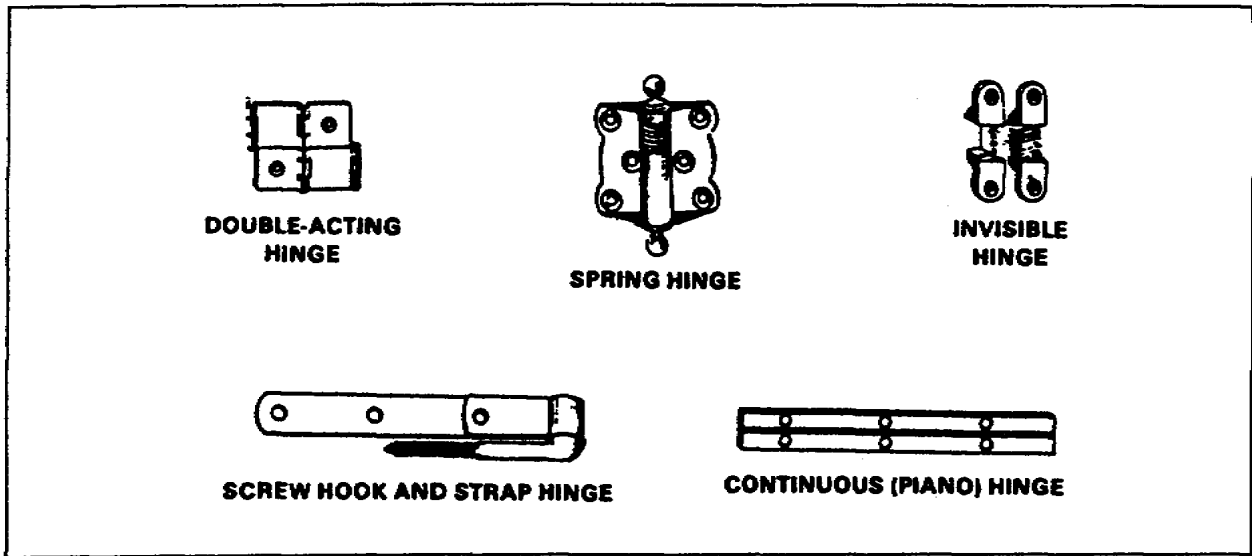

Figure 1-56. Special hinges
e. Special Hinges. Many other types of hinges are available. Several are shown in Figure 1-56.